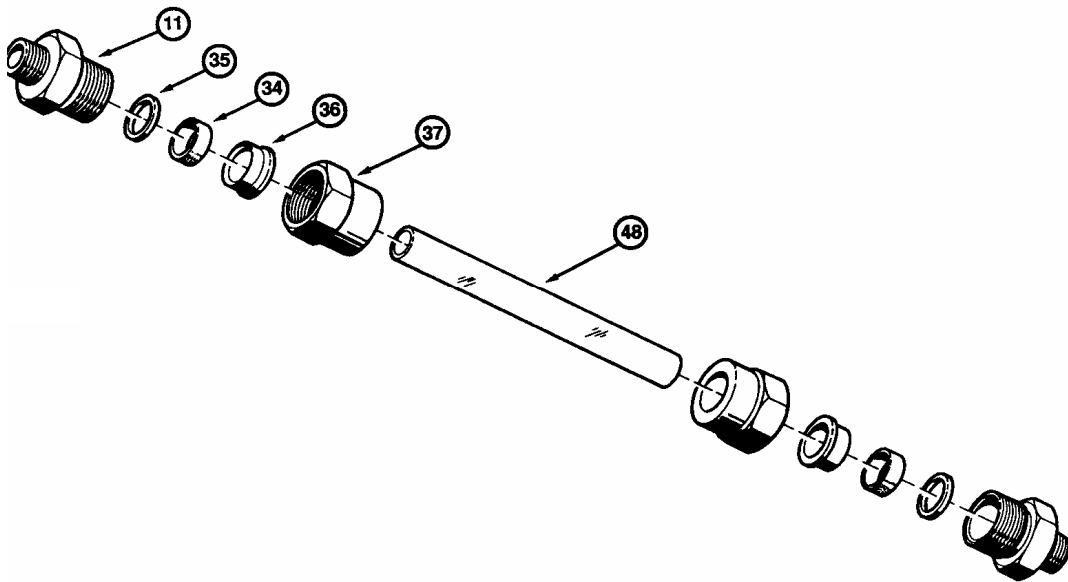

Figure 2
In some cases it may be necessary to remove glass packing nut, glass packing gland, glass packing, and glass packing retainer and mount them to the sight glass prior to insertion of glass in upper and lower gagecock bodies. See Figure 2, the Exploded Parts Drawing for the proper sequence.
1. Refer to Figure 2.